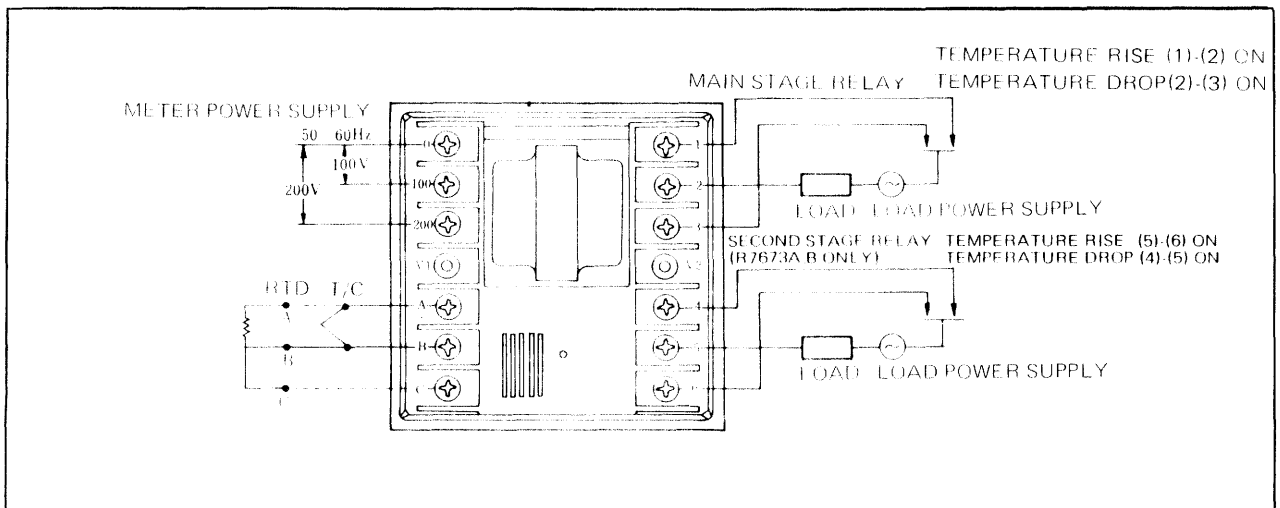

Fig. 2
(1) Use JIS C3307 600V vinyl-insulated wire having a conductor diameter of 0.5 mm to 1.25 mm and a finished outside diameter of 2.0 mm to 3.2 mm (AWG #22 - #16).
(2) Wire the instrument according to the external connection terminal symbols. Use solderless terminals. (See Figure 2.)